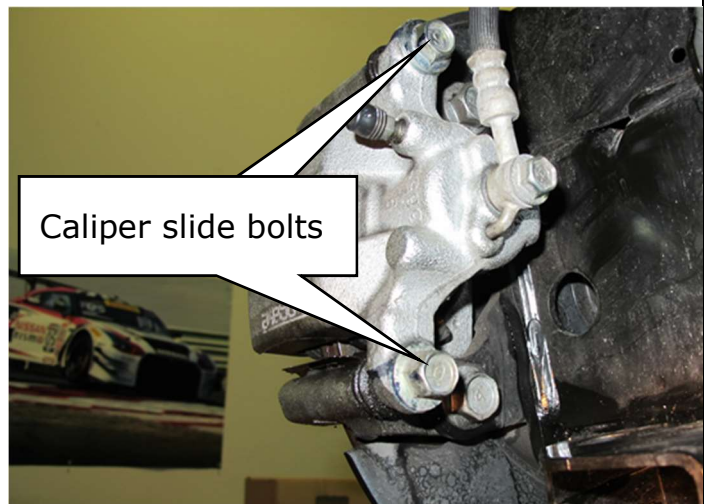

Figure 7
- Remove the upper and lower caliper slide bolts with a suitable tool (Figure 7)